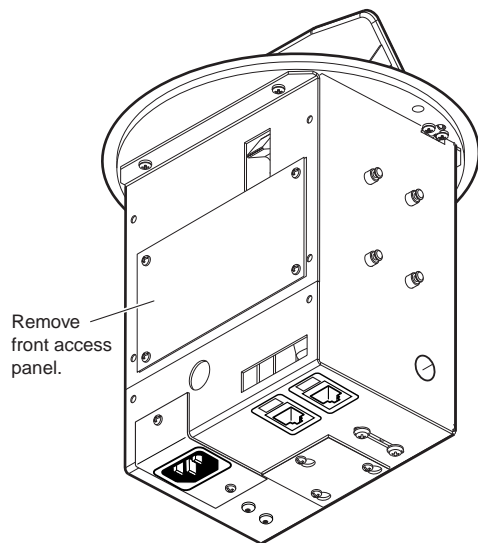

Figure 3-1 — Removing the front access panel (HSA 222 models)
2. **(HSA 222 models only)** Remove the four Phillips head screws from the front access panel (figure 3-1). Retain the screws. Lift the panel away from the enclosure.